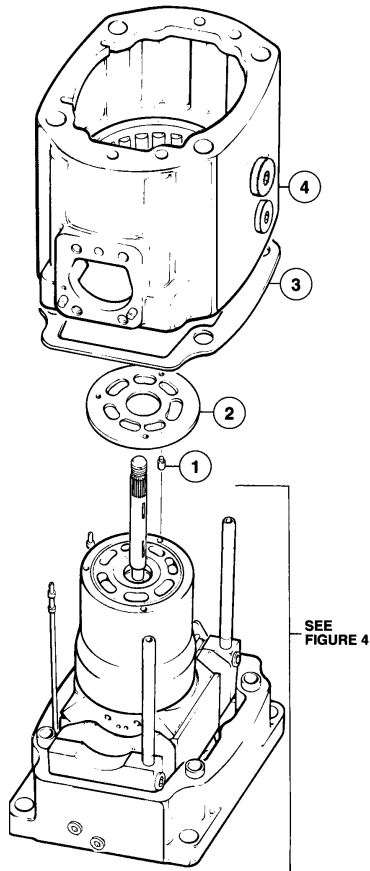

FIGURE 6
See figure 6: Install the three face plate pins (1) in the holes provided in the barrel face.
PARTS LIST FOR FIGURE 6